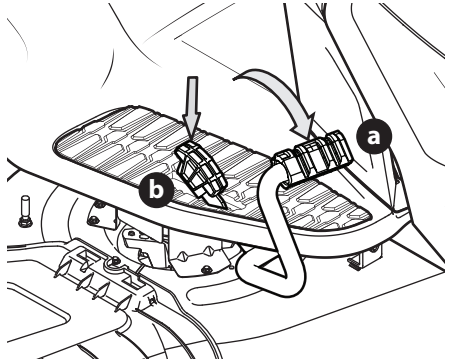

Fig. 27
2. To travel FORWARD, slowly depress the forward drive pedal (a) forward until the desired speed is achieved (Fig. 27).
3. To travel in REVERSE, check that the area behind is clear then slowly depress the reverse drive pedal (b) until the desired speed is achieved (Fig. 27).